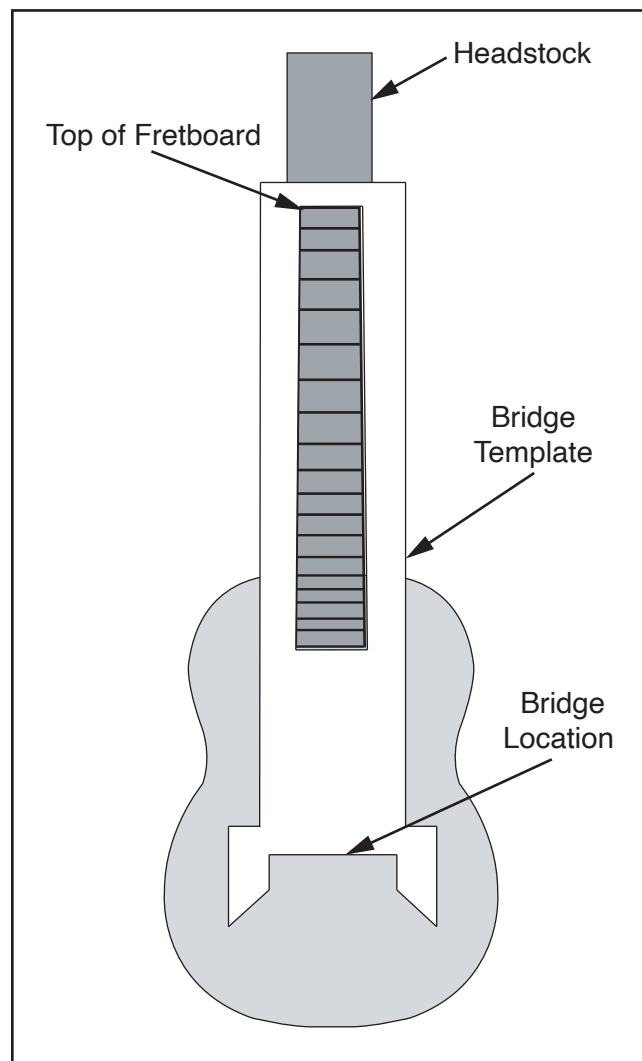

Figure 14. Using template for bridge placement.
1. Place template at top of fretboard (see **Figure 14**), making sure fretboard and sound hole are clearly visible and properly aligned.
3. Place template (see **Figure 14**) back in position and use a pencil to lightly trace top and sides lines for bridge.
4. Remove template (see **Figure 14**) and place bridge in relation to marks made on tape.